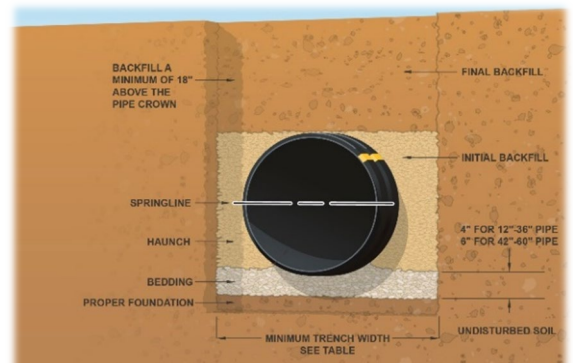

Figure 4: Trench Construction for 8'+ Burial Depths
- For burial depths greater than 8', a flat bottom trench, shown in Figure 4, should be used. The middle 1/3 portion of the bedding shall be loosely placed. The remainder shall be compacted in accordance with Table 2.